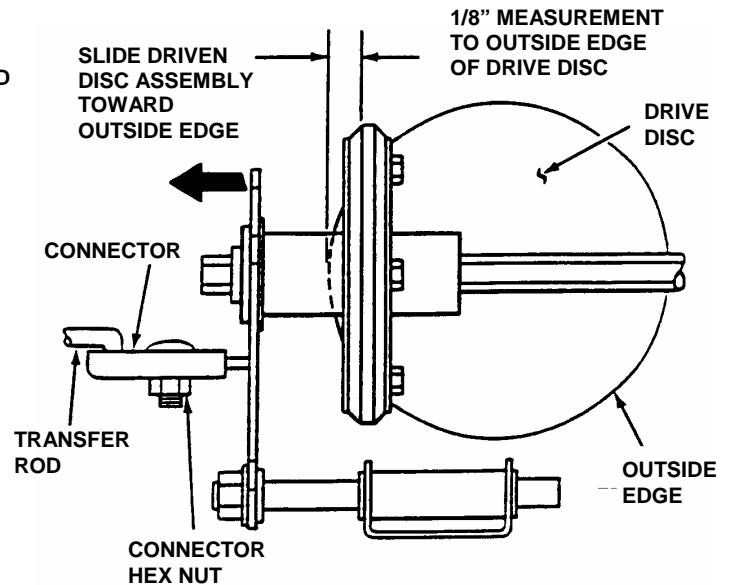

FIGURE 9
C. Slide driven disc assembly over until 1/8" from outside edge of drive disc. Maintaining the 1/8" measurement, remove any looseness from the linkage. This can be done by holding the transfer rod and applying pressure to the left (as viewed from operators position), then retighten the connector hex nut securely. See Figure 9. Move shift rod to the number one speed position, then back to the number six speed position. Recheck the 1/8" measurement described previously. Reinstall driven disc spring to driven disc assembly.